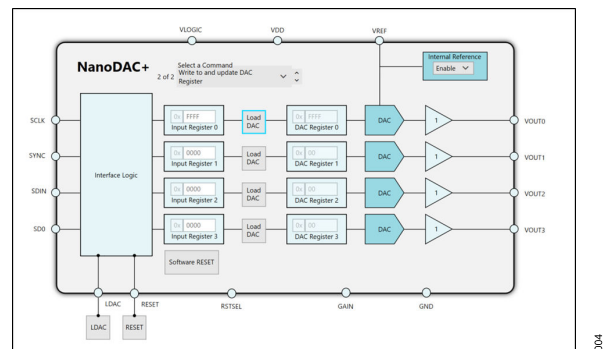
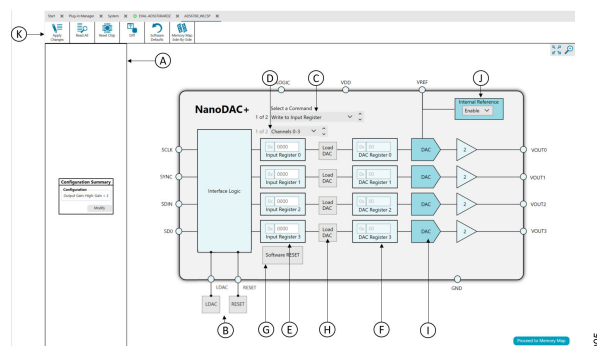

Figure 4. Chip Block Diagram View of the AD5675R or AD5676R
Figure 5. Block Diagram with Labels
4. Double-click the **AD5675R** or **AD5676R** chip to access the chip view as shown in Figure 4. This view provides a basic representation of functionality of the board. See Figure 5 and Table 1 for the details on the main function blocks of the board.
Some of the blocks and their functions are described in this section as they pertain to the EVAL-AD5675RARDZ and EVAL-AD5676R2ARDZ. The block diagram is shown in Figure 5, and Table 1 describes the functionality of each block.